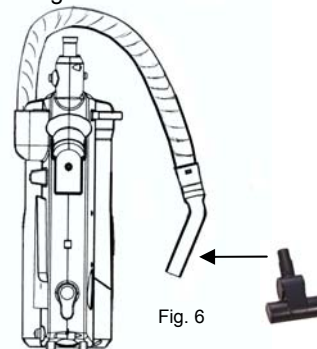

Fig. 6
1. Remove the flexible hose from the hose connector. (Fig. 6)